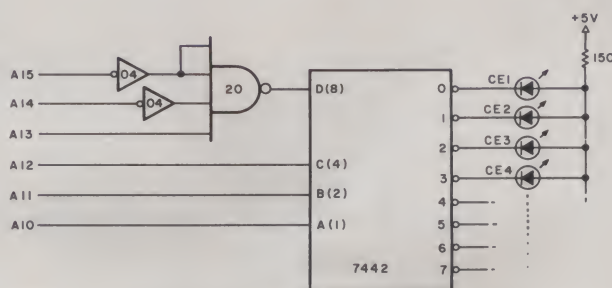

Fig. 6. A more complex memory-select circuit.
**Procedure:** Fig. 6 shows a circuit that might be used on an 8K board divided into 10 blocks. For this experiment, you will need the 7442 decoder, a 7404 inverter and a 7420 dual four-input NAND, all of which you already have from previous experiments. If you don't have these specific units, you can easily substitute other decoders, inverters and gates.